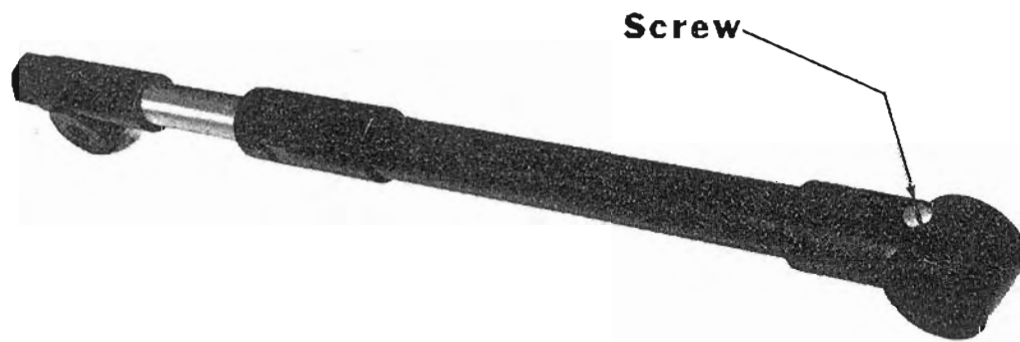

Figure 4. Bleeding Air from Hydraulic System - New Style
7. For tilt cylinders with air bleed cover screw located at upper aft end of tilt cylinder (Figure 4), proceed as follows: